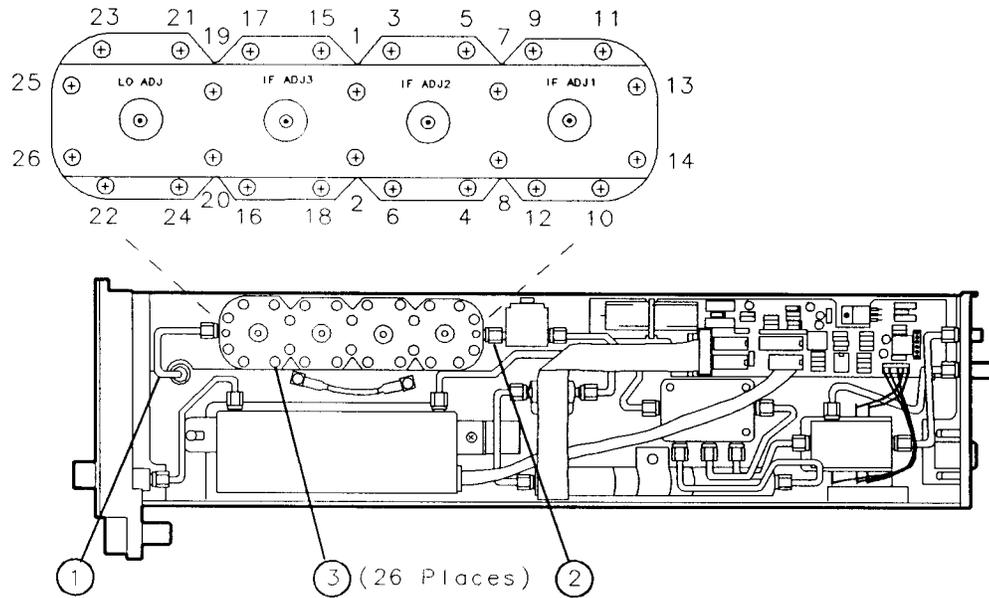

Figure 6-15. Second Converter Bandpass Filter and LO Housing Replacement
3. Disconnect the W2 semirigid cable (1). See Figure 6-15.
4. Remove the SMA connector between A10 Isolator and the 1st IF IN connector on the Second Converter Bandpass Filter and LO Housing (2).
5. Remove the 26 screws from the housing (3). Lift the housing straight up for removal.
7. Replace the 26 screws to the housing (3), but do not tighten at this time.
8. Beginning with the two center screws, follow the numbered sequence in Figure 6-15 to hand-tighten each screw.
10. Reconnect the W2 semirigid cable (1). Torque the W2 SMA connector at the A13 VCO/Sampler to 6 inch-pounds. Torque the W2 SMA connector on the Second Converter Bandpass Filter and LO Housing to 10 inch-pounds.
11. Replace the SMA connector between the 1st IF IN and the A10 Isolator (2) and torque it to 10 inch-pounds.